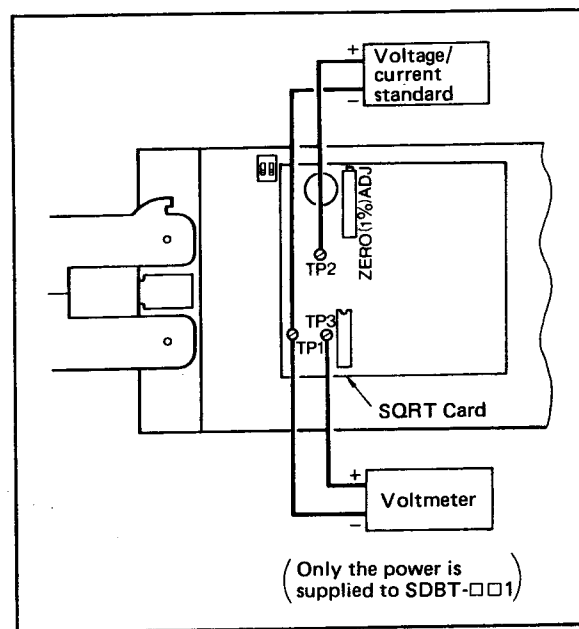

Figure 7-4. Zero Adjustment on SQRT Card.
- (1) Wire the instrument as per Figure 7-4, and turn the power ON. Allow the instruments to warm up for at least 5 minutes.
- (2) When 1.04 V DC is applied from the voltage/current standard, confirm that the voltmeter indicates  $1.4 \pm 0.02$  V.
- (3) If the voltmeter does not indicate this value, adjust the ZERO ADJ until it reads correct value.